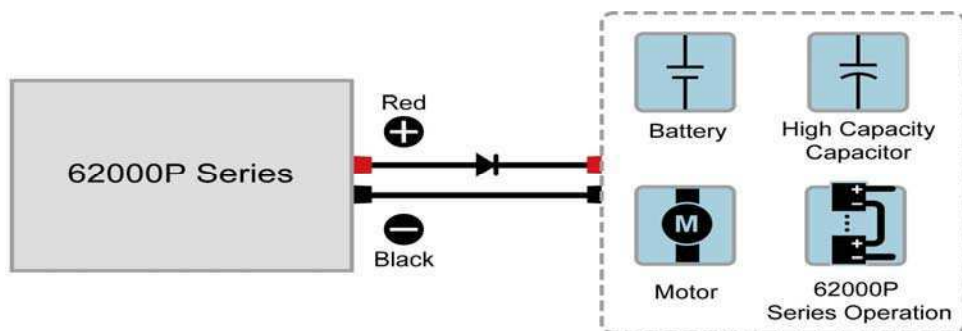

Figure 1-1
14. If it is applied to battery charge or inductance load such as motors, the output port needs to connect a diode in series to prevent the load current from backwash and damage the device interior. See Figure 1-1.